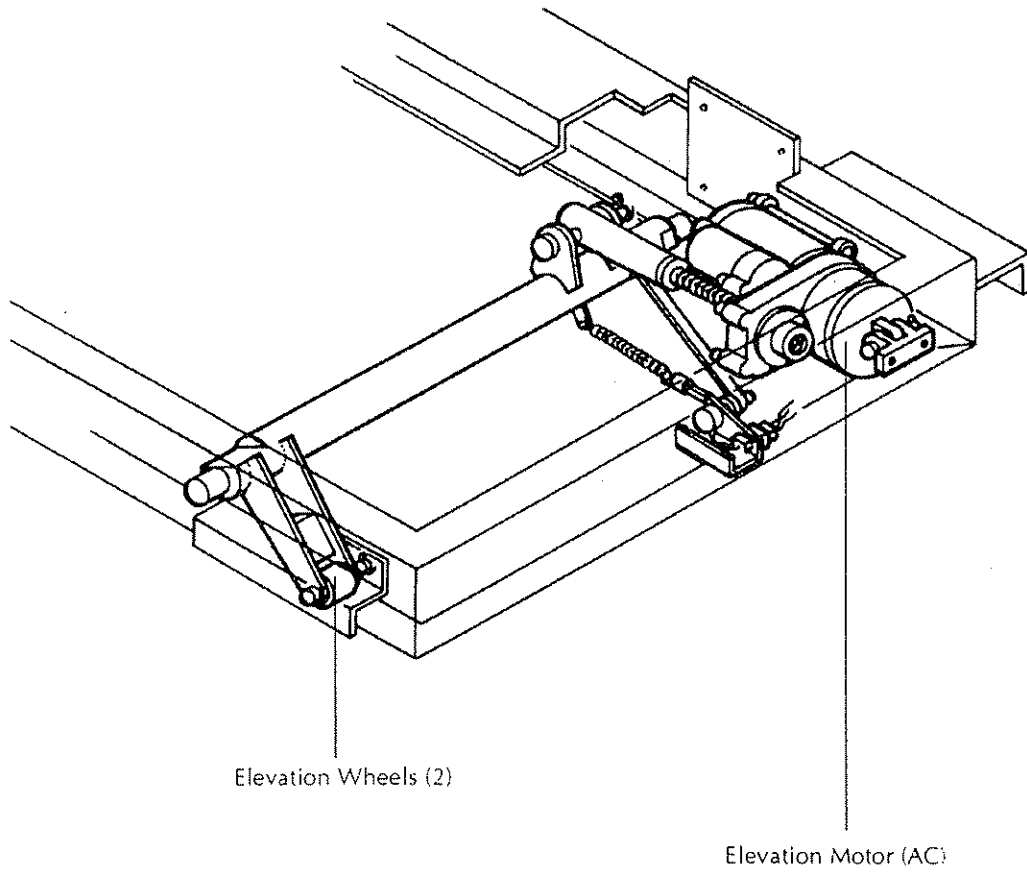

Figure 4-24: Elevation Assembly
- c. Check the clearance between the elevation wheels and the floor. Repeat Step 3b (as required) until this clearance is approximately 1/16-inch (0.15875 cm). See Figure 4-24.
5. Establish a 12% grade reference point. Refer to Figure 4-24 and complete the following: